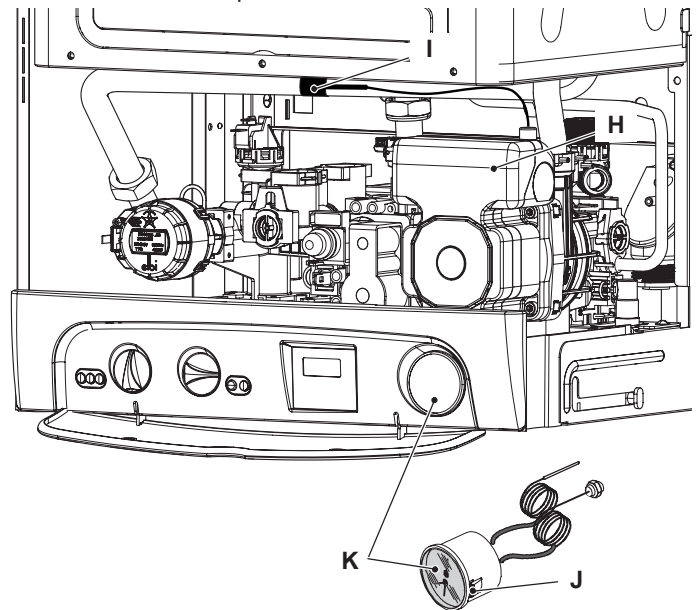

Figure 13.3
- 2 Remove the fork H and the probe holder spring I (Figure 13.3).